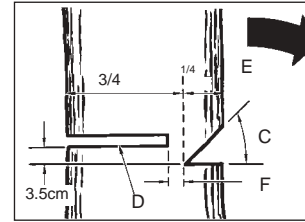

Fig. 10B
WARNING: Never walk in front of a tree that has been notched. Make the felling cut (D) from the other side of the tree and 3-5cm above the edge of the notch (C) (Fig. 10B).